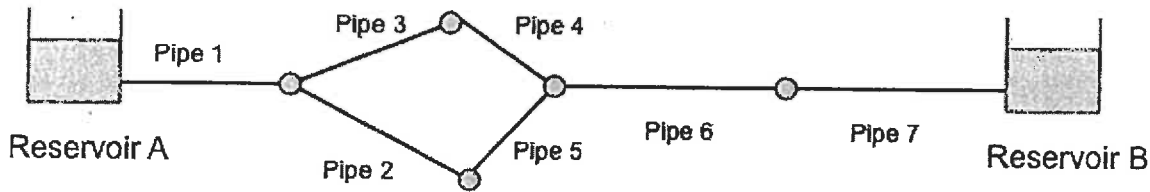

Figure 1. Network of pipes that carries flow from upstream reservoir A to downstream reservoir B.
- /20 1. The pipes indicated in Figure 1 carry flow from upstream reservoir A with a hydraulic head of 100 m to downstream reservoir B with a hydraulic head of 70 m. All the pipes have a length of 1,000 m, a 'C' factor of 120, and a diameter of 250 mm. Using equivalent pipe calculations, calculate the total flow through the system. Calculate the flow through pipe 5.